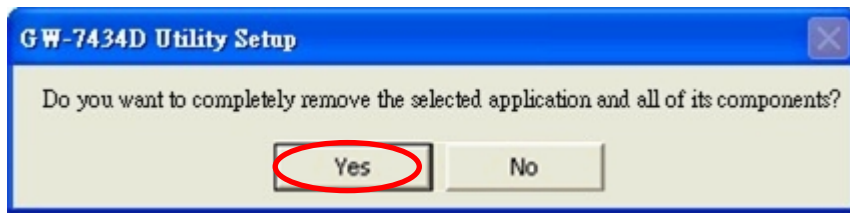

Figure 5-11: Click the button “Yes” to remove the software
Step 5: Click the button “Yes” to remove the software as shown in figure 5-11.